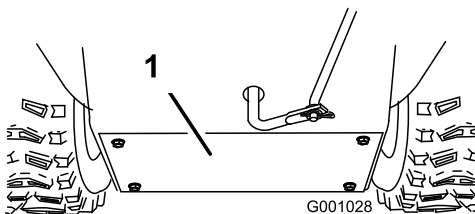

Figure 36
3. Remove the back cover (Figure 36).